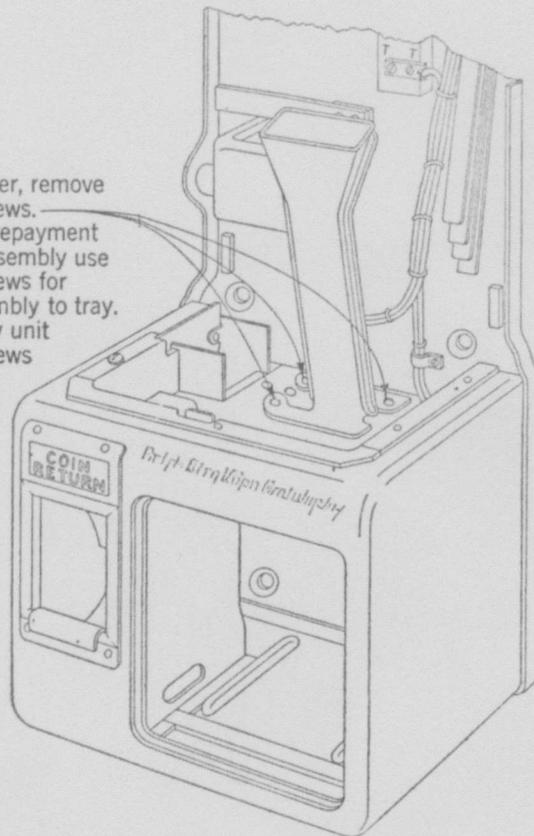

Fig. 2.
- (1) Remove the upper housing.
- (2) Remove the coin hopper shown in Fig. 2.